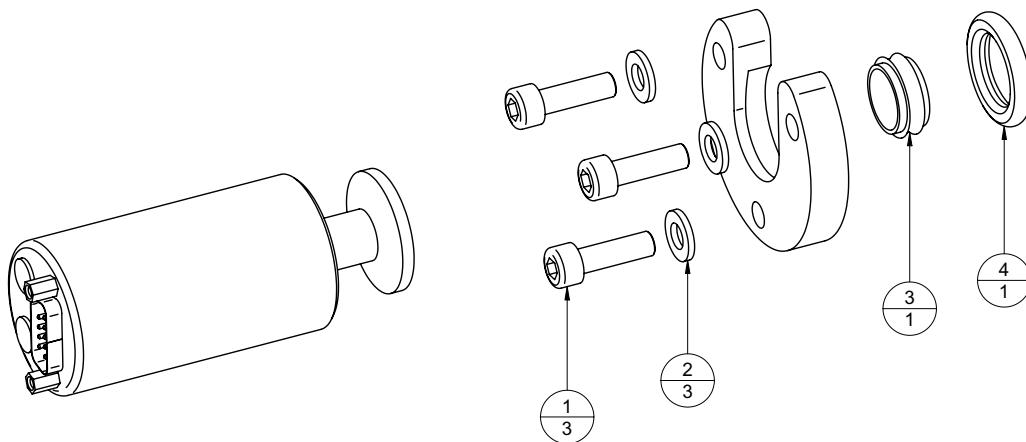

Figure 4.14 Roughing Gauge Assembly
1. Refer to Figure 4.14.
2. Remove three M6 x 20 screws (1) and washers (2) and remove the roughing gauge assembly.
3. Dismantle the assembly and remove O ring (4) and carrier (3).
6. Refit the assembly to the chamber using screws (1) and washers (2).